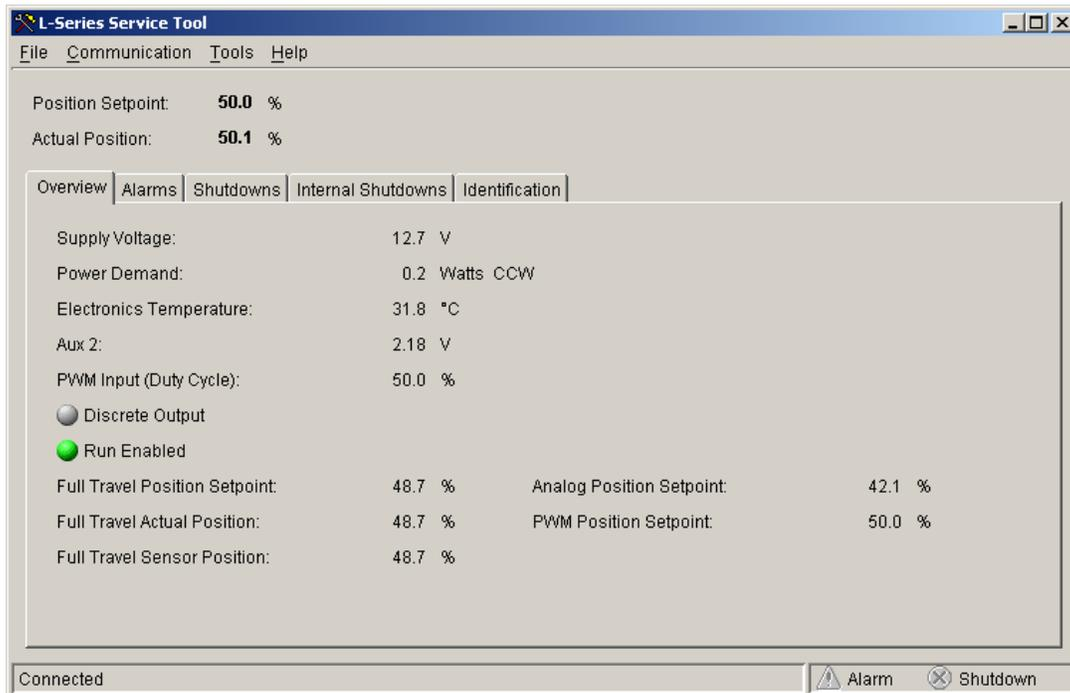

Figure 4-11. Service Tool—Overview Tab
- Overview (Figure 4-11)
To monitor the overview parameters, go to the Overview page (figure 4-11) on the main window.